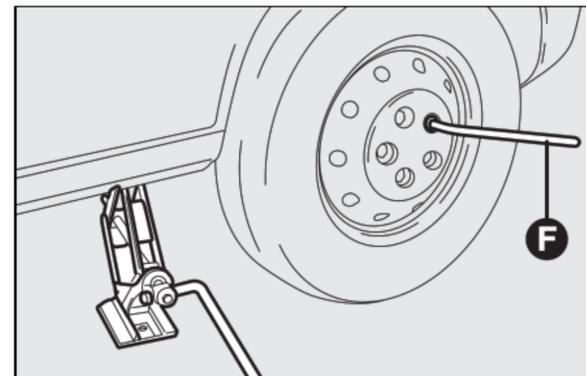

fig. 8
- loosen the bolts completely using the wrench **F-fig. 8** and remove the wheel;